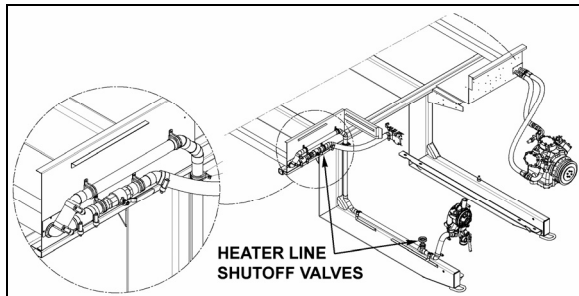

FIGURE 43: HEATER LINE SHUTOFF VALVES 05070
**On XLII-45E vehicles**, the valves are located in engine compartment. One is on the L.H. side of compartment in front of the radiator and the other valve is located under the radiator fan gear box (Fig. 43).